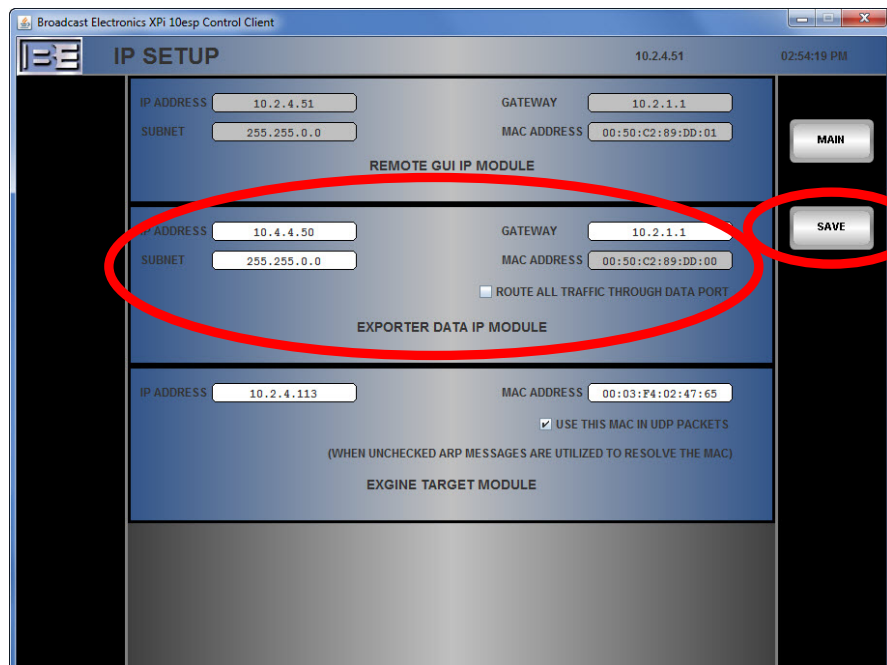

Figure 9 – Data Port Settings
6. For a list of additional commands, enter “help” and return. Available commands are subject to change, and Figure 9 above does not necessarily reflect the current list of commands.